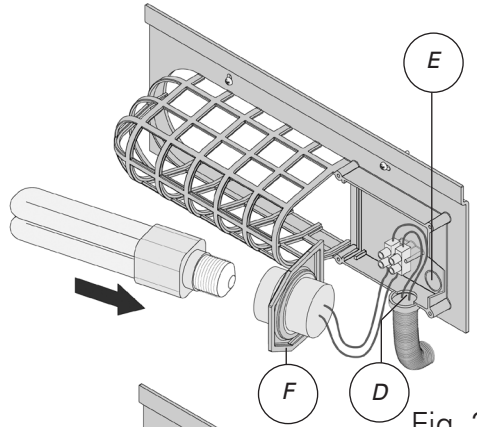

Fig. 2
5. Avvitare la lampada al supporto portalamпада **(F)** (fig. 2).
5. Screw the bulb into the bulb holder **(F)** (fig. 2).